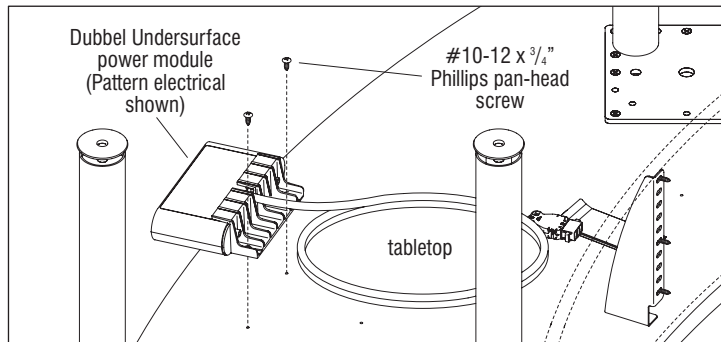

**Figure 2**
1. With the assembled table in the upright position, orient the Dean In-Surface power module as shown and route the connector end (or plug end) down through the tabletop cutout in the tabletop. Press the module down firmly into the cutout (Figure 2 & Detail C).